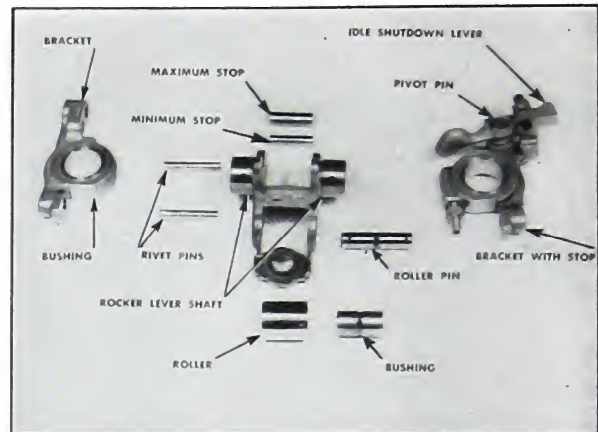

Fig. 5-239. Exploded view cam rocker lever assembly requires special jigs and line-boring equipment. Fig. 5-239.
2. Check the wear of the idle shut-down lever on the pivot pin. If the lever has excessive (.004 to .006) clearance, the pivot pin should be pressed out of the bracket and the pivot pin and hole checked. Replace new if the pivot pin is worn smaller than .309 or if the pivot pin hole is larger than .315. Fig. 5-239.
the shaft and bracket bushings. Fig. 5-239.
2. The cam rocker lever roller has a floating bushing: Compare its clearance with that of a new assembly. If it has more than .007 total clearance, it should be disassembled and each part should be checked for wear. See Fig. 5-239. Replace with new parts if worn beyond these limits: